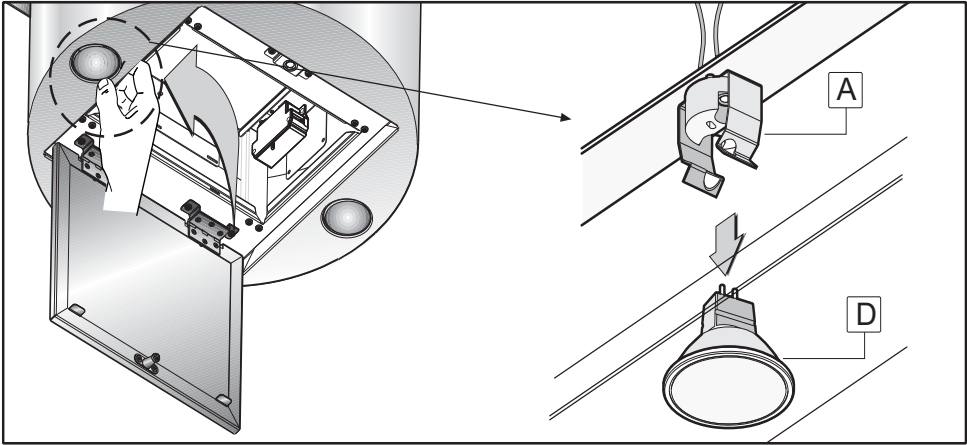

Fig.15
• **Replacing halogen light bulbs (Fig. 15).**
To replace the halogen lamps **B**, from the inside of the cooker hood press downwards with two fingers as shown in Fig. 15.